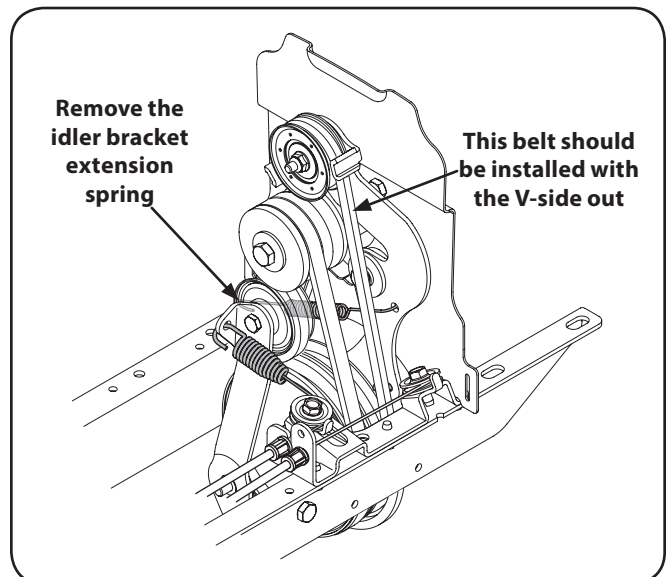

Figure 7-3
4. Remove the idler bracket extension spring, as pointed out in "Figure 7-3". It is recommended to use a pair of needle-nosed pliers, and grab the spring by the end that hooks over the frame. Simply grab it and pull it away from the frame, then up wards and carefully relieve the tension of the spring.